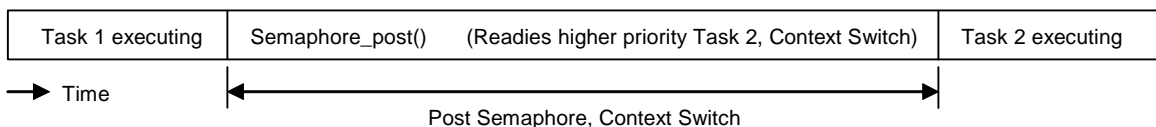

Figure C-14 Post Semaphore with Task Switch
- ❑ **Post a semaphore, context switch.** This is a measurement of the elapsed time between a function call to Semaphore_post() (which readies a higher-priority task pending on the semaphore causing a context switch to higher-priority task) and the execution of the first instruction in the higher-priority task, as shown in Figure C-14.